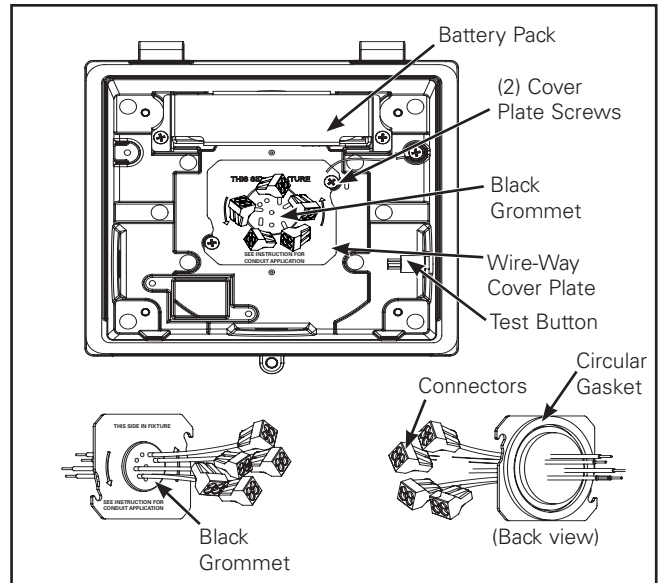

Figure 2.
3. Over Junction Box Wiring and Rear entry Conduit Installation: Loosen but DO NOT remove two screws securing wire-way cover plate (Figure 2). Rotate wire-way cover plate counterclockwise and remove wire-way cover plate from opening.
1. Over Junction Box: Make supply wiring connections to the backside of the wire-way cover plate. Follow NEC guidelines for wet location wiring (wire nuts supplied by others). Ensure all wires are secured in the junction box and re-install wire-way cover plate by rotating clockwise into the screws. Tighten wire-way cover plate screws to 10 in-lbs. (Figure 2).
Thru-Branch Conduit: Remove the required 1/2" NPT conduit plug(s). Apply sealing compound or Teflon tape to liquid-tight conduit fitting (supplied by others) entering back box to create water-tight seal. DO NOT remove the wire-way cover plate (Figure 2). Remove wire leads from the wire-way cover plate by gently pulling the wiring located in the black grommet toward you. Do not remove black grommet from the wire-way cover plate.
Back Conduit Entry: Remove the black grommet and wires from the wire-way cover plate (DO NOT remove circular gasket). Attach conduit to wire-way cover plate with water-tight connector (supplied by others). Re-install wire-way cover plate by rotating clockwise into the screws. Tighten wire-way cover plate screws to 10 in-lbs. (Figure. 2).